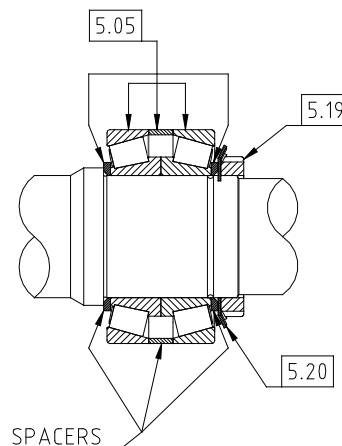

Figure 45
- Install bearings (5.05) complete with spacers (5.05) to shafts (5.01 and 5.02) ensuring correct positioning of all components as either removed in 4.3.3. Above or supplied as new replacement set, see Figure 45.
- Install spacers (5.24), product seal sleeves (28 or 66), rotor keys (78) and rotors (41) to shafts (5.01 and 5.02) and secure with rotor retainers (35) using tool (58).